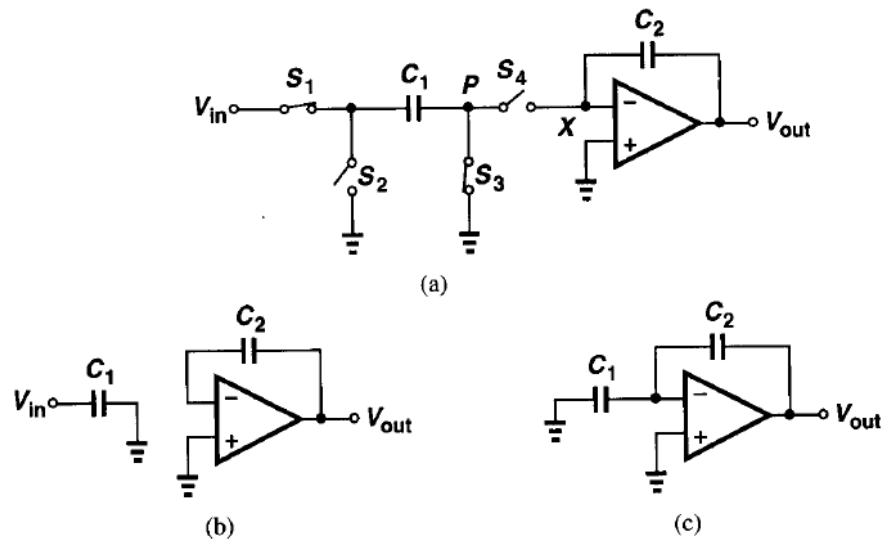

Figure 12.56 (a) Parasitic-insensitive integrator, (b) circuit of (a) in sampling mode, (c) circuit of (a) in integration mode.
- In the transition to the integration mode S_3 turns off first, injecting a constant charge onto C_1 . S_1 turns off next, and subsequently S_2 and S_4 turns on (Fig. 12.56 c)). The charge stored on C_1 is transferred to C_2 via the virtual ground node. Since S_3 turns off first, it introduces only a constant offset, which can be suppressed by differential operation.